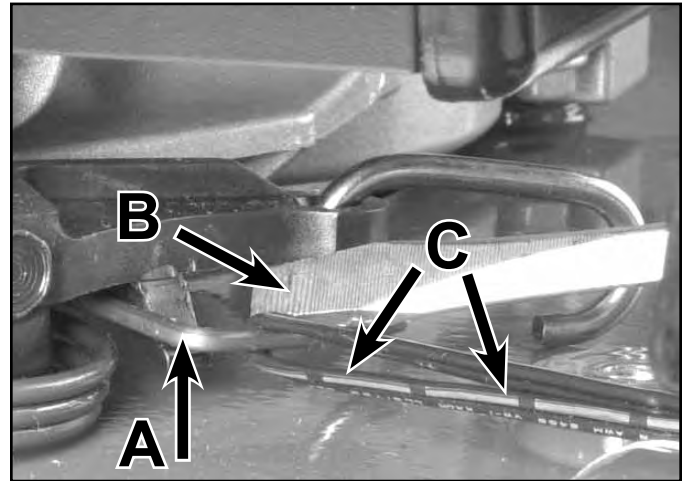

Fig 233
- Hold the idler/brake arm in place. Slip the spring over the end on top of the deck as shown. Install the lever and install the screw through the lever and idler/brake arm shaft (Fig. 233). Once the screw is secured take a loop of wire or rope and hook the end of the spring. Pull it towards you and hook the end as shown.